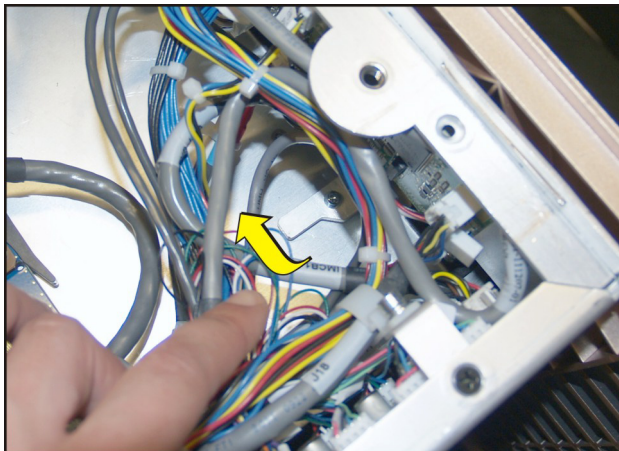

Figure 5-52 Spring Latch for Security Ring
5. Release the security ring by pushing the latch, located on the inside of the cardcage, to the right. (**Figure 5-52**) **NOTES:** 1) Marriage is broken when this latch is toggled. 2) The security ring should only be removed by Christie authorized service technicians.